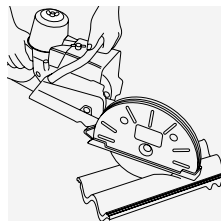

Fig. 22 – Use a disc cutter for mitring or cutting tiles to rake
- 2 Tiles cut to rake or mitre in open details, e.g. valleys, external angles, should be trimmed with a disc cutter (Fig. 22) to ensure a neat finish.